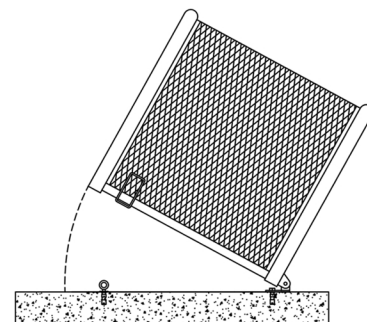

FIG. 5
**Step 10.** Insert eye bolt into anchor. Tighten eye bolt with wrench. Lower the enclosure down over eye bolt. Install padlock. (See FIG. 5)